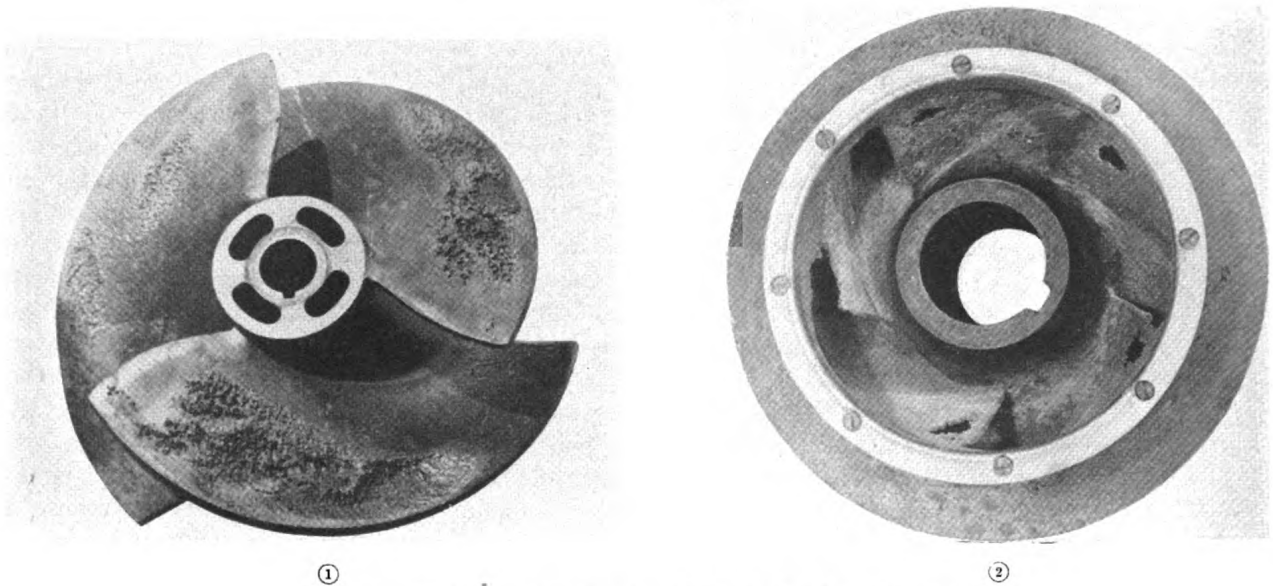

Figure 30. Pump impellers showing typical effects of cavitation.
(1) *Effect.* Cavitation causes severe pitting and a characteristic spongy appearance in the metal. It generally affects the entrance portion of the impeller, though it may also occur on the casing. Figure 30① shows the effect of cavitation on a mix flow pump impeller; figure 30② shows the effect on a double-suction centrifugal-pump impeller.